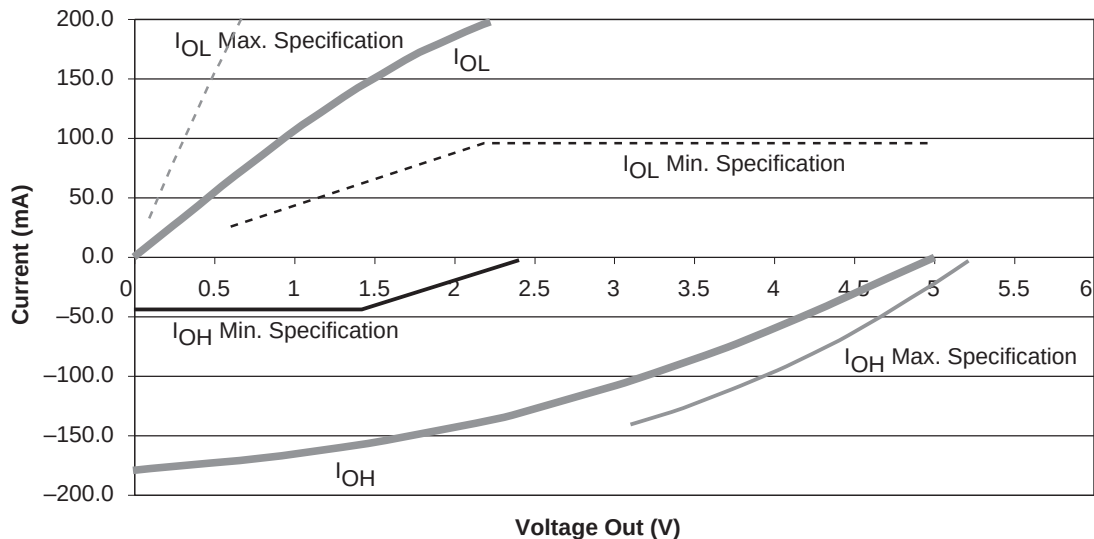

Figure 2-7 • 5 V PCI V/I Curve for RTSX-SU
1. Refer to the V/I curves in Figure 2-7 on page 2-22. Switching current characteristics for REQ# and GNT# are permitted to be one half of that specified here; i.e., half size output drivers may be used on these signals. This specification does not apply to CLK and RST#, which are system outputs. The "Switching Current High" specification is not relevant to SERR#, INTA#, INTB#, INTC#, and INTD#, which are open drain outputs.
3. Maximum current requirements must be met as drivers pull beyond the last step voltage. Equations defining these maximums (A and B) are provided with the respective curves in Figure 2-7 on page 2-22. The equation defined maximum should be met by the design. In order to facilitate component testing, a maximum current test point is defined for each side of the output driver.